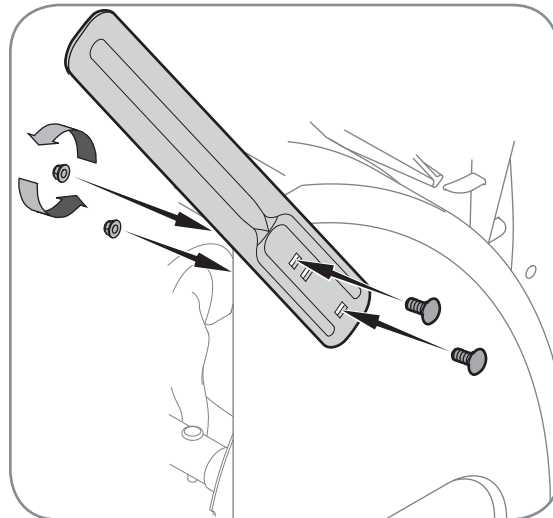

Figure 10
- Secure to the auger housing with carriage bolts and hex nuts previously removed. See Figure 10.